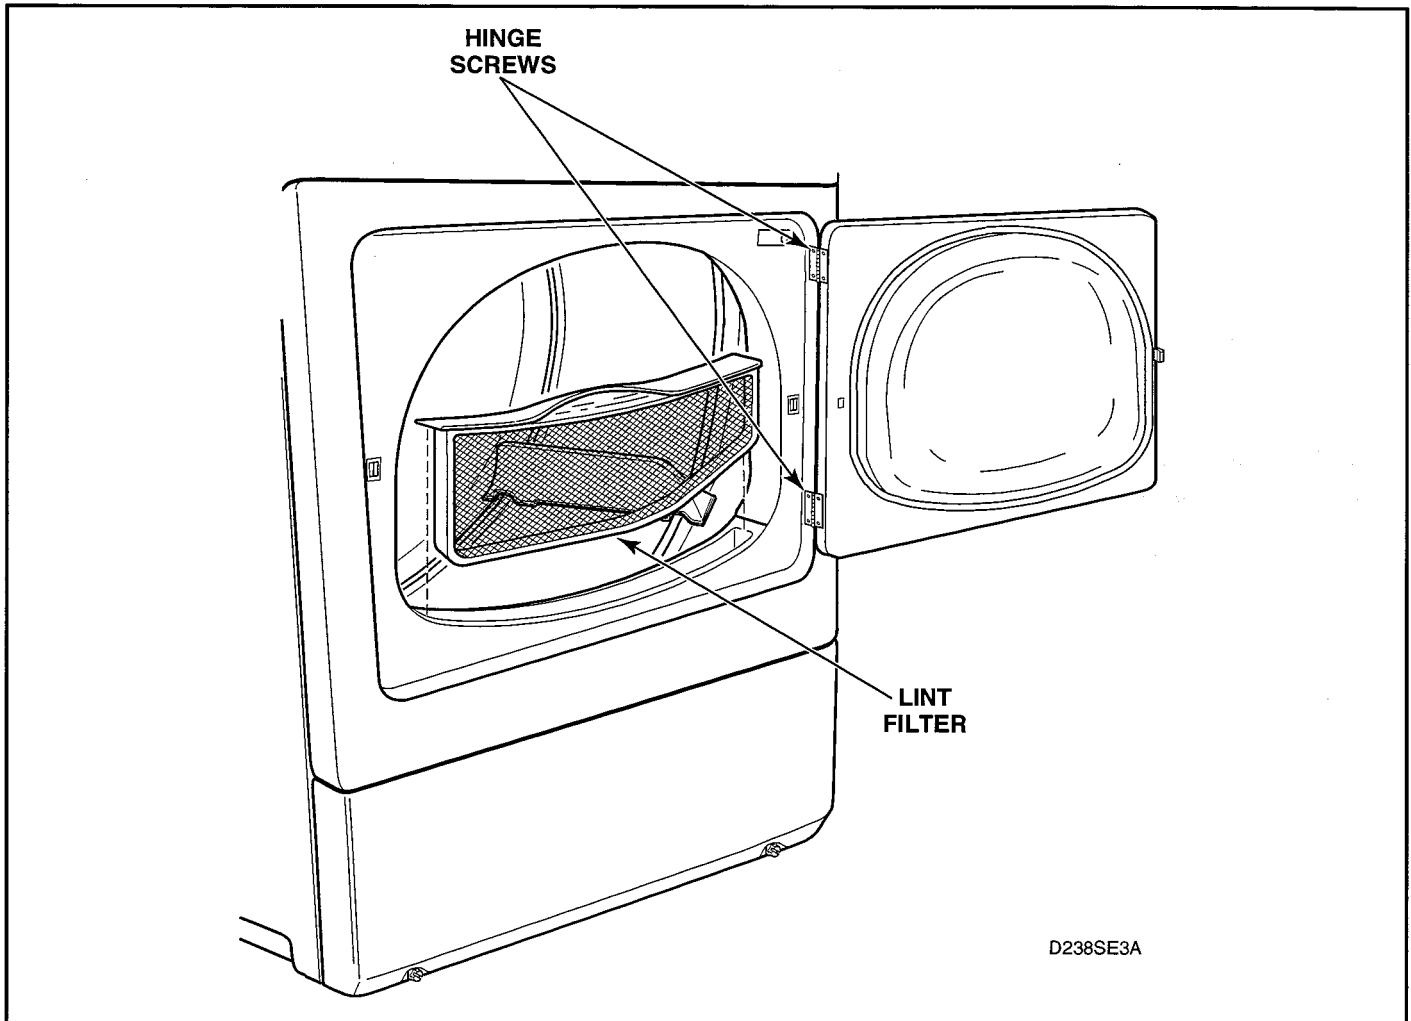

Figure 5-3
### 7. LINT FILTER (Figure 5-3)
- a. Remove four screws holding door assembly to hinges. See figure 5-3.
- b. Remove screws holding loading door to hinges. See figure 5-3.